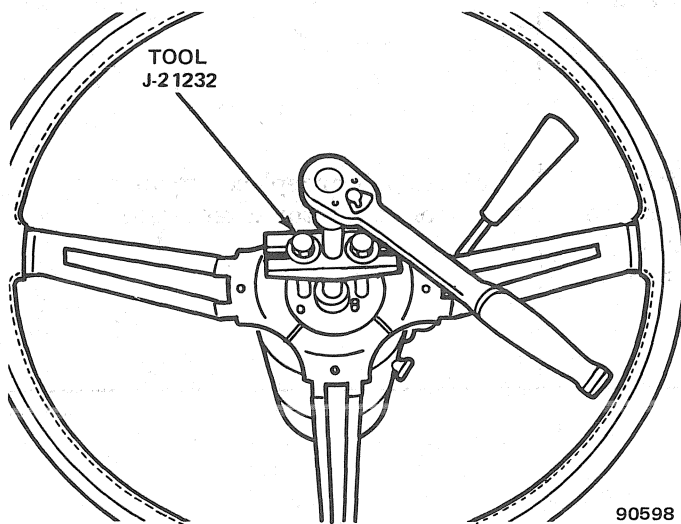

Fig. 2J-1 Steering Wheel Removal
- (1) Disconnect battery negative cable.
- (2) Place front wheels in straight ahead position.
- (3) Remove horn button. Pull button straight up to remove.
- (4) Remove steering wheel nut and washer.
- (5) Remove receiver bushing attaching screws and remove bushing.
- (6) Remove horn button receiver and contact plate.
- (7) Paint or scribe alignment marks on steering wheel and steering shaft for assembly reference.
- (8) Remove steering wheel using Puller J-21232 (fig. 2J-1).